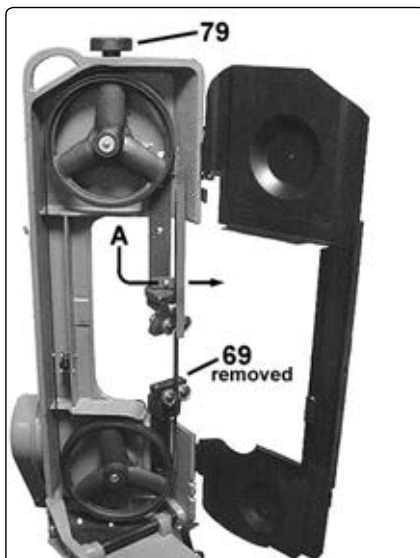

fig.21
- ❑ **WARNING!** Refit blade guard (69), see fig.21, before using saw for horizontal cutting.
- 7.2.2. Open the blade back safety panel by removing the screw (58) and hinge it open as shown in fig.21.
- 7.2.3. Before the blade can be removed release the tension on the blade by turning the blade tension knob (79), see fig.21, anticlockwise.
- 7.2.7. Begin to tension the blade by turning the knob (79), see fig.21, clockwise but as you do so make sure that the back edge of the blade is seated against the rim of both pulleys. Check that the blade is seating properly by turning the upper pulley by hand (using the three spokes of the wheel) until you have observed a full rotation of the blade.
- 7.2.9. Replace the lower blade guard (69), see fig.21, and move the upper blade guide back into its position over the blade.